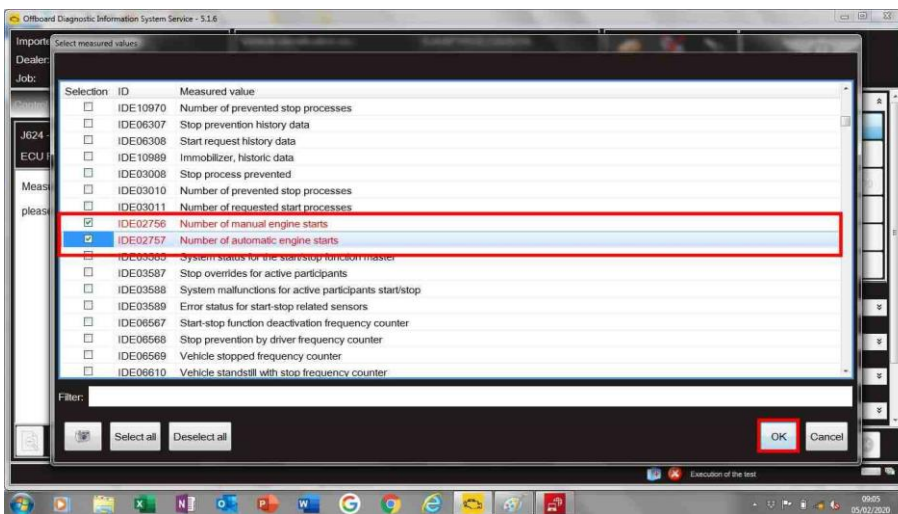

Figure 4
- Select **"IDE02756"** and **"IDE02757"** and then **"OK"** – Figure 4.